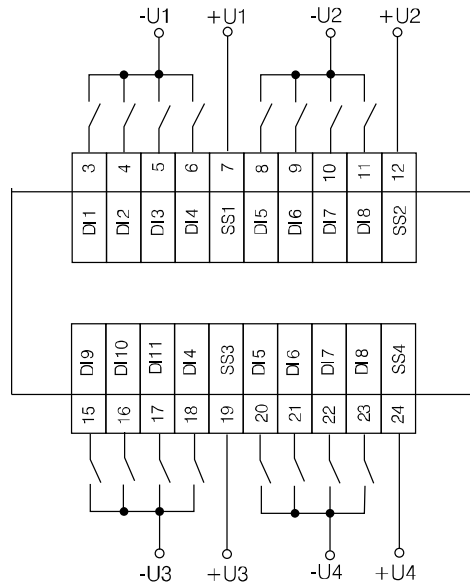

Fig. 4.2 Connection of switch contacts to the MV110-16DN
- Connection variants for different signal types are shown in Fig. 4.2 – 4.4.
Connection variants for different signal types are shown in Figures 4.2 – 4.4.